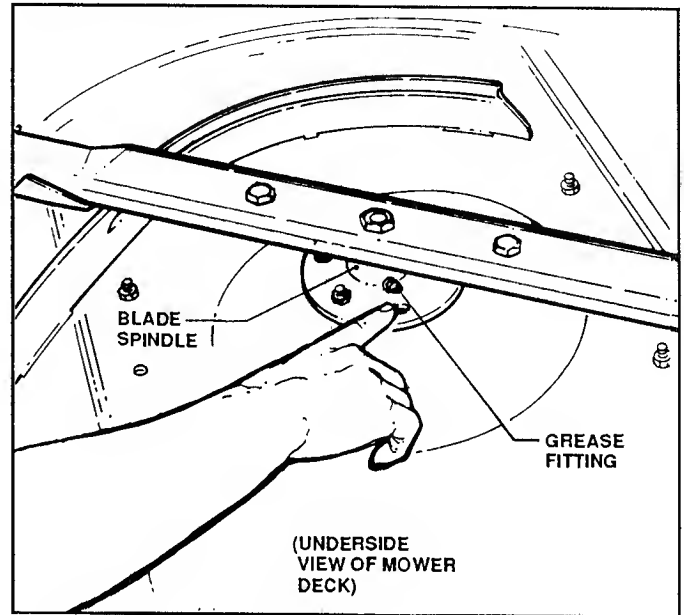

FIGURE 11
- **BLADE SPINDLE:** Two shots of grease only once yearly. See Figure 11.